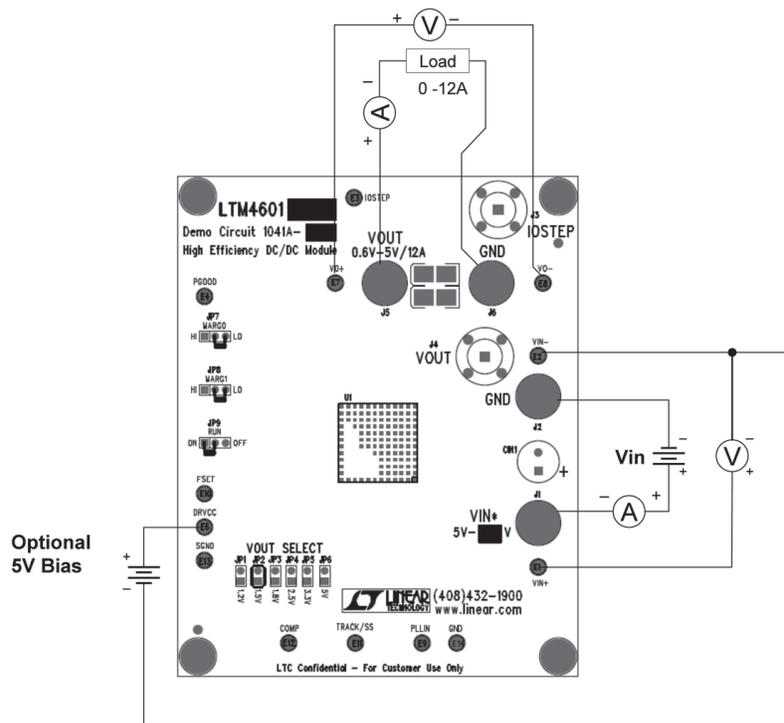

Figure 1. Demo Board Setup
Demonstration circuit DC1041A-B is an easy way to evaluate the performance of the LTM4601. Please refer to Figure 1 for proper measurement equipment setup and follow the procedure below:
1. With the power supply off, connect the input power supply, load and meters as shown in Figure 1. Preset the load to 0A and power supply voltage within the LTM4601's operating input voltage range.